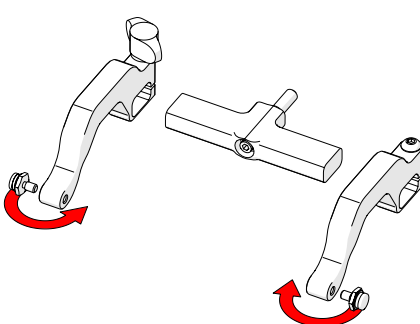

Fig. 59 - Position pivot buttons
5. Position the pivot buttons to the inside of the probe holder arms (Fig. 59).